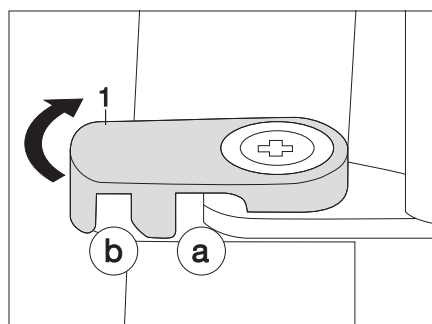

Fig. 115 Locking the refrigerator door
- Turn the locking lever (Fig. 115/1) to the side.
- Turn the locking lever (Fig. 115/1) to the locking position a. The refrigerator door is closed and locked.
- Turn the locking lever (Fig. 115/1) to the locking position b. The refrigerator door is locked in the ventilation position.